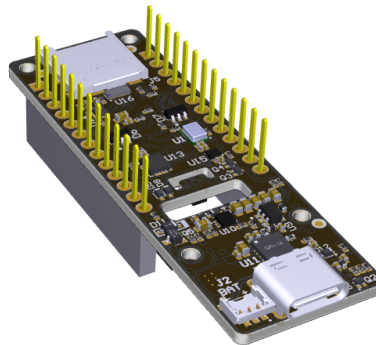

Figure 20. Type C connector on the sensor board
- 2 - type C on the sensor board (Fig 20).